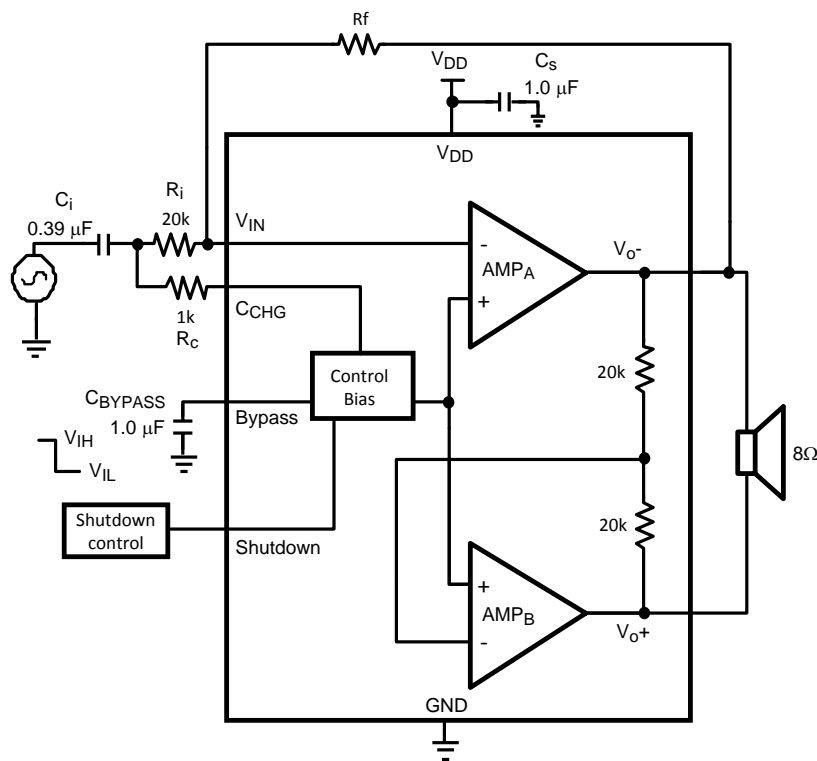

Figure 1. Typical Bridge-Tied-Load (BTL) Audio Amplifier Application Circuit
- (1) “*Absolute Maximum Ratings*” indicate limits beyond which damage to the device may occur, including inoperability and degradation of device reliability and/or performance. Functional operation of the device and/or non-degradation at the s or other conditions beyond those indicated in the *Recommended Operating Conditions* is not implied. The *Recommended Operating Conditions* indicate conditions at which the device is functional and the device should not be operated beyond such conditions. All voltages are measured with respect to the ground pin, unless otherwise specified.
- (2) The *Electrical Characteristics* tables list ensured specifications under the listed *Recommended Operating Conditions* except as otherwise modified or specified by the *Electrical Characteristics Conditions* and/or Notes. Typical specifications are estimations only and are not ensured.
- (3) The maximum power dissipation must be derated at elevated temperatures and is dictated by T_{JMAX}, θ_{JA}, and the ambient temperature, T_A. The maximum allowable power dissipation is P_{DMAX} = (T_{JMAX} - T_A) / θ_{JA} or the number given in *Absolute Maximum Ratings*, whichever is lower. For the LM4951A typical application (shown in Figure 1) with V_{DD} = 7.5V, R_L = 8Ω mono-BTL operation the max power dissipation is 1.42W. θ_{JA} = 73°C/W.
- (4) Human body model, applicable std. JESD22-A114C.
- (5) Machine model, applicable std. JESD22-A115-A.